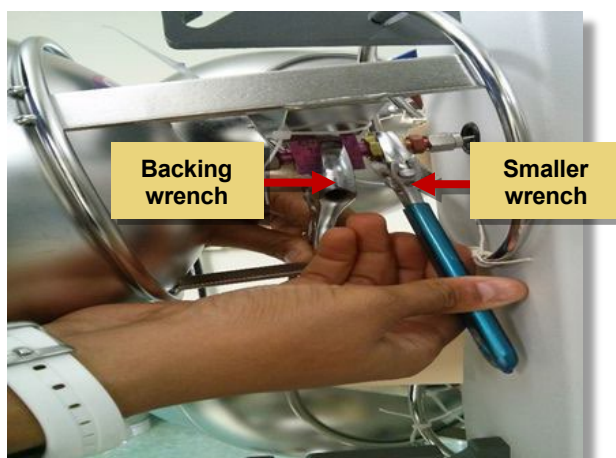

Figure 7. Tightening the canister connection to the autosampler port.
2. Finger tighten the connections and then gently snug them by placing a backing wrench on the canister valve body to provide stability and tightening the connection between the canister outlet fitting and the autosampler port using a smaller wrench (Figure 7). Take care not to tighten the fittings too much since they will distort.